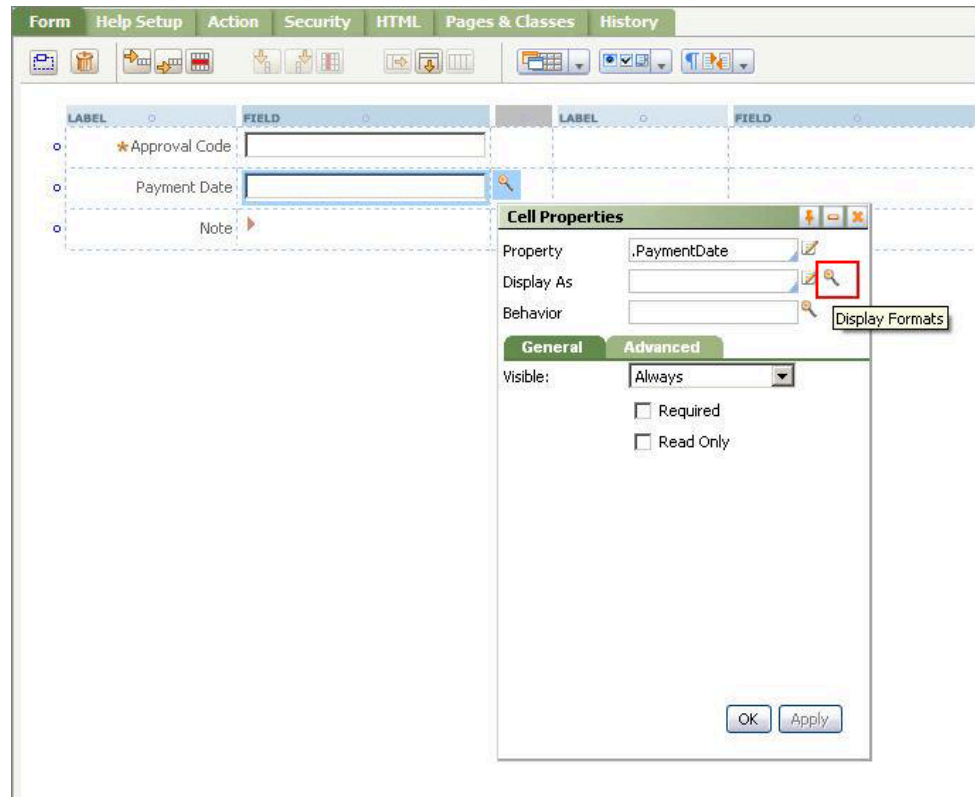

Figure 4-21. Display As Selection
7. Select the magnifying Glass icon next to the Display As field to open the Param Window (Figure 4-21).